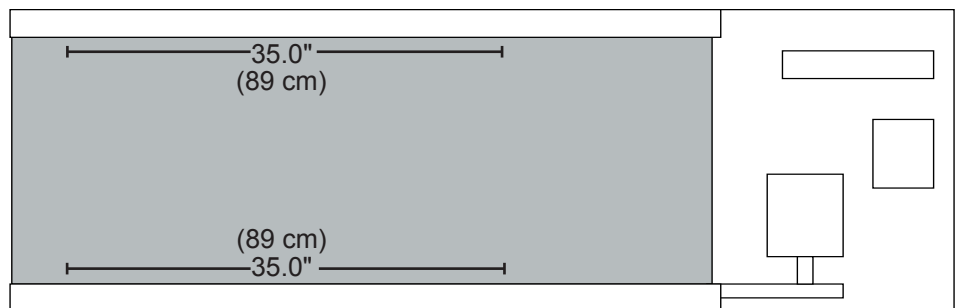

Figure 2
2. With the walking belt loose, place two marks 35 inches (89 cm) apart on each side of the belt near the edge. The belt must be loose enough for you to move it from side-to-side on the front or rear roller (see Figure 2).